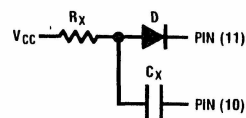

FIGURE 2
4. If  $C_X$  is an electrolytic capacitor a switching diode is often required for standard TTL one-shots to prevent high inverse leakage current (Figure 2).